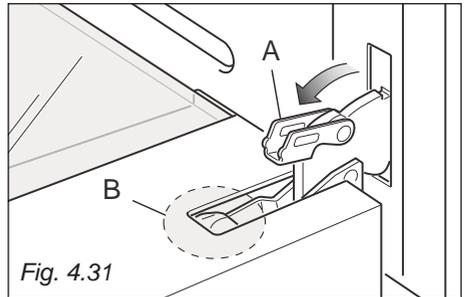

Fig. 4.31
- Open the lever "A" completely on the left and right hinges (fig. 4.31).
- Gently close the door until left and right hinge levers "A" are hooked to part "B" of the door (figs. 4.31, 4.32).